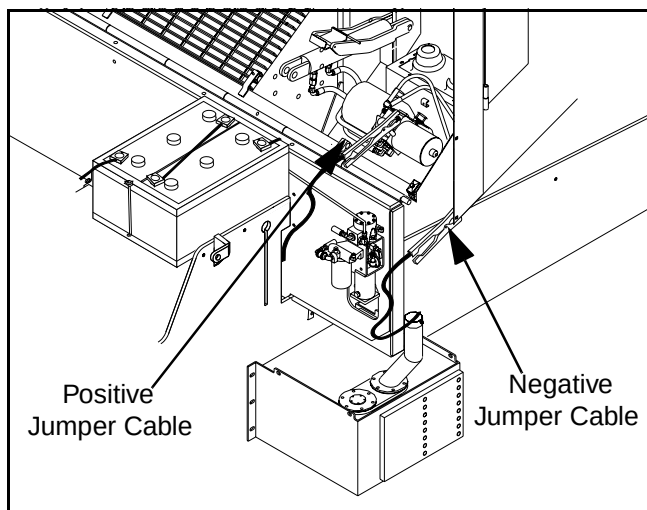

Figure 3 - 25 Jumper Cable Connection Points
- 2) Connect the jumper cables to the power source. (Figure 3 - 25)